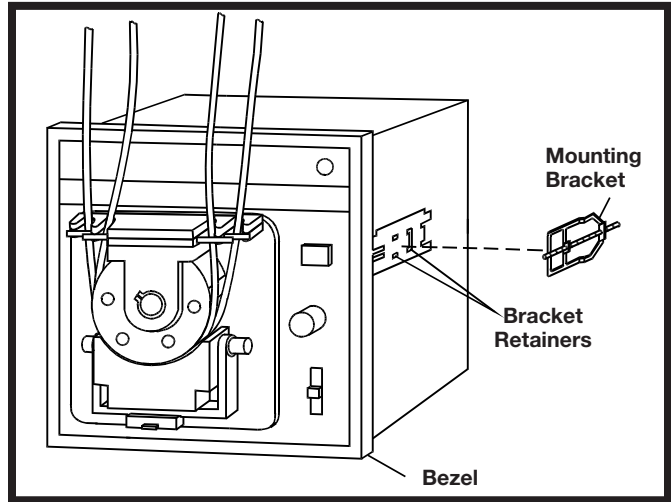

Figure 5. Mounting Bracket Installation
2. Place a **Mounting Bracket**, *Figure 5*, between the grooved bracket retainers on one side of the Case and slide the Mounting Bracket back to lock into the retainer grooves.